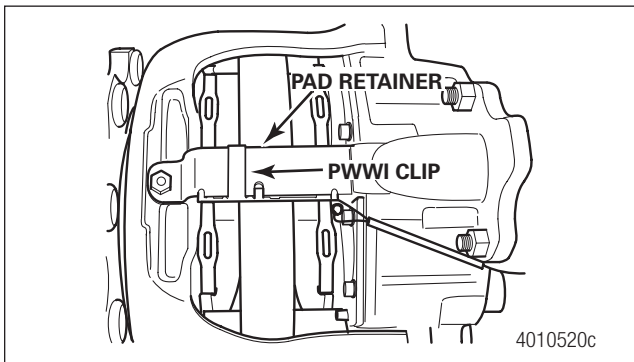

Figure 6.20 PWWI Assembly Installed
- If a new PWWI is to be installed, position the pad wear cable correctly and carefully clip the pad wear warning cable retainer to the pad retaining plate. Figure 6.20.